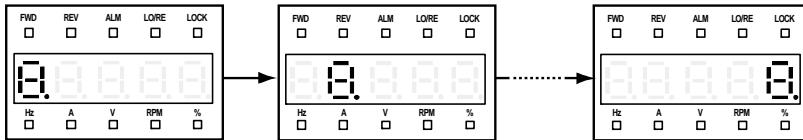

Figure 5-13 Starting display of the display panel self-checking
1. In stop status, the self-checking function can be enabled by pressing **►** key and **◀** key simultaneously for 2—3 seconds, the 5 LED will cyclically display “8.” from left to right in turn for three times which is as shown in Figure 5-13.